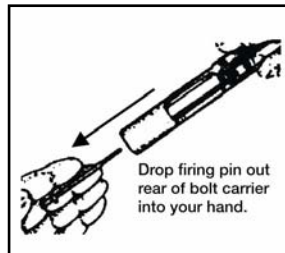

Figure 071-311-2025-14. Removing the firing pin
- m.** Remove the bolt cam pin by turning it one-quarter turn and lifting it out (figure 071-311-2025-15).